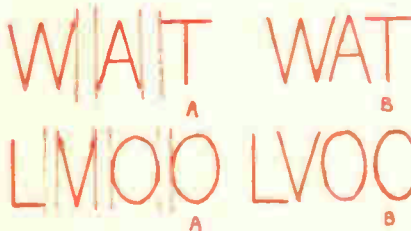

Fig. 6
gaps between irregular shaped letters by fitting them closer together. Reference to the examples in Fig. 6 will explain this — equal spacing between the letters is shown at (A), while at (B) they have been optically spaced so that they appear equal.